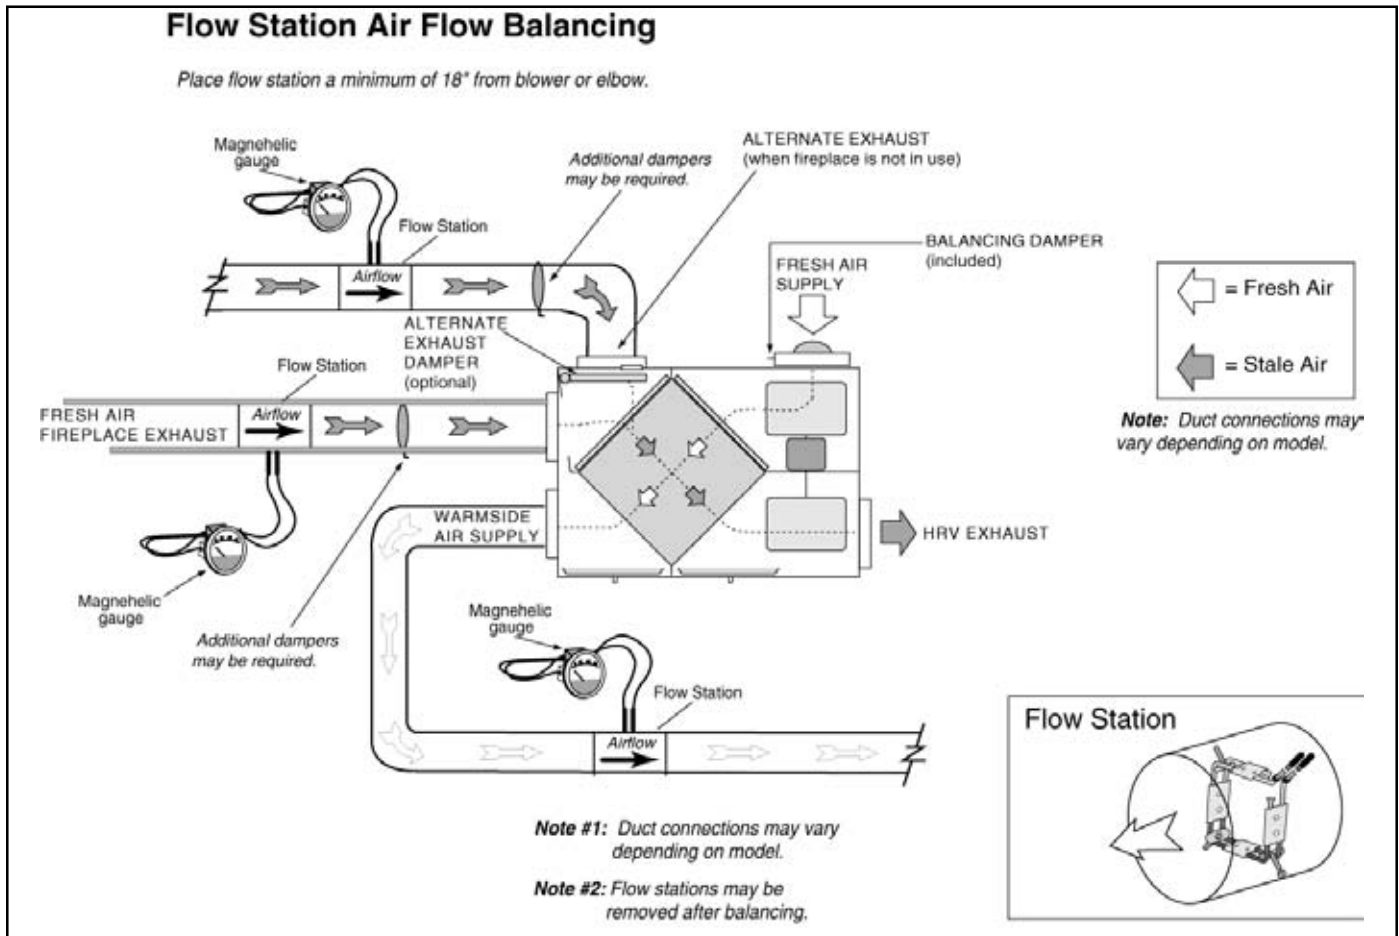

Figure 17 - Flow Station Balancing
4. Flow Station Balancing Procedure (see Figure 17)
Take readings from both exhaust ducts and the warmside air supply. Determine which duct has the highest air flow (highest reading on the gauge). Then damper that air flow back to match the lower reading from the other duct. The flows should now be balanced. See Figure 17. Actual air flow can be determined from the gauge reading. The value read on the gauge is called the velocity pressure. The flow station comes with a chart that will give the air flow velocity based on the velocity pressure indicated by the gauge. This velocity will be in either feet per minute or meters per second.
The accuracy of the air flow reading will be affected by how close to any elbows or bends the readings are taken. See Figure 17.